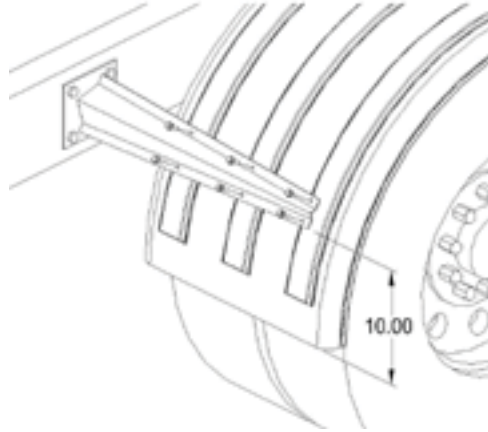

Figure 5
- C. Before welding bracket or bolting mounting plate, make sure the brackets are within 10" of the bottom of the fender to avoid wind blowing the fender back into the tire. If the front fender bracket is mounted higher than 10", run a piece of steel strapping on the inside of the fender to give it extra strength (see Figure 5). When brackets are in position, weld bracket or bolt mounting plate to frame.